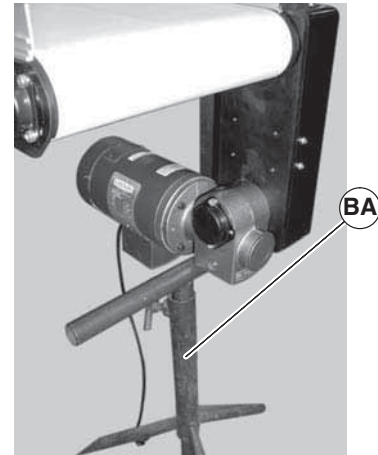

Figure 39
- Use a temporary support (Figure 39, item BA) to support Gearmotor.